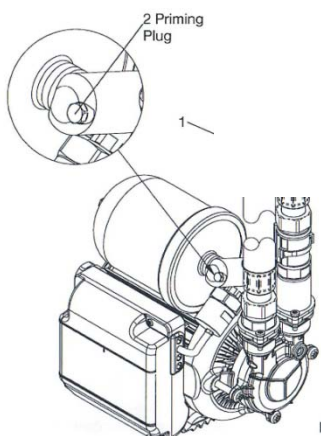

Fig 1.1a Pump priming plug
1.2.5 Ensure the pump is primed before starting otherwise the pump seal will be damaged and cause a leak (see fig 1.1a).
- 2.2.10 ensure the pump is primed (filled with water) before starting otherwise the pump seal will be damaged and cause it to leak (see fig 1.1a).